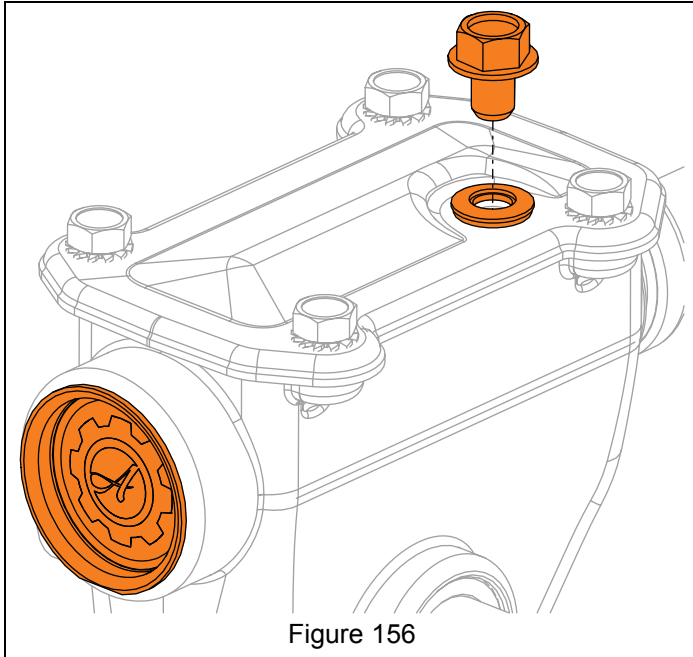

Figure 156
20. Reinstall bushing retainer into flange bushing groove. See Figure 156.